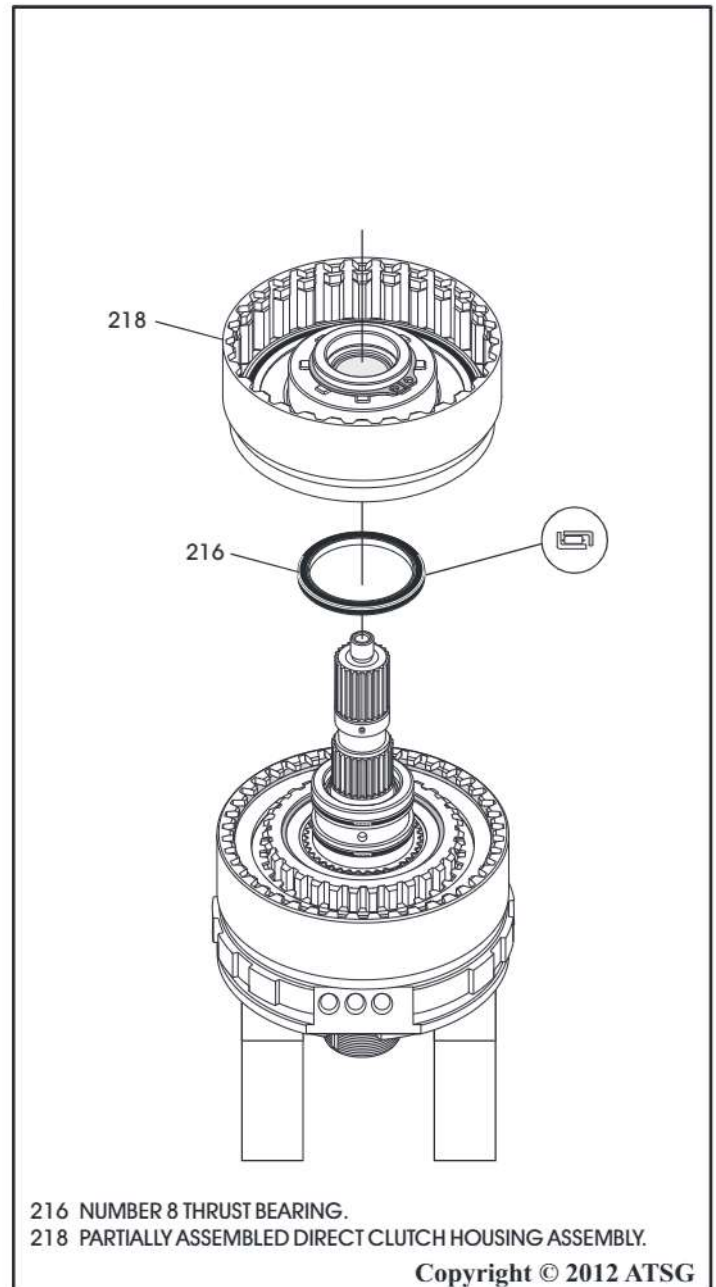

Figure 164
18. Install the number 8 thrust bearing in the direction shown in Figure 164.
19. Install partially assembled direct clutch housing, as shown in Figure 164, and ensure that it is engaged onto the outer sprag race.